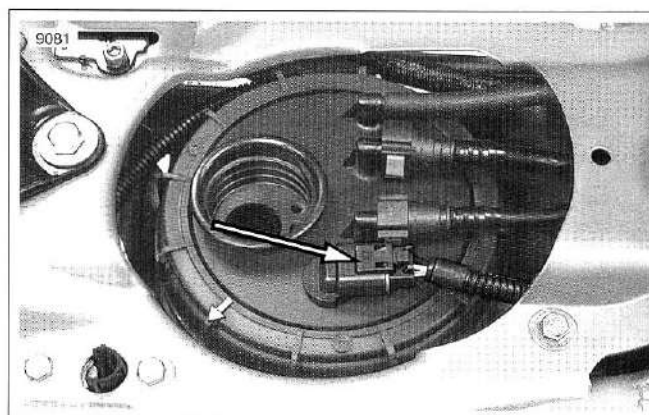

Figure 9-18. Fuel Pump Connector [141]
1. See Figure 9-18. Disconnect fuel pump connector [141] from top of fuel tank.